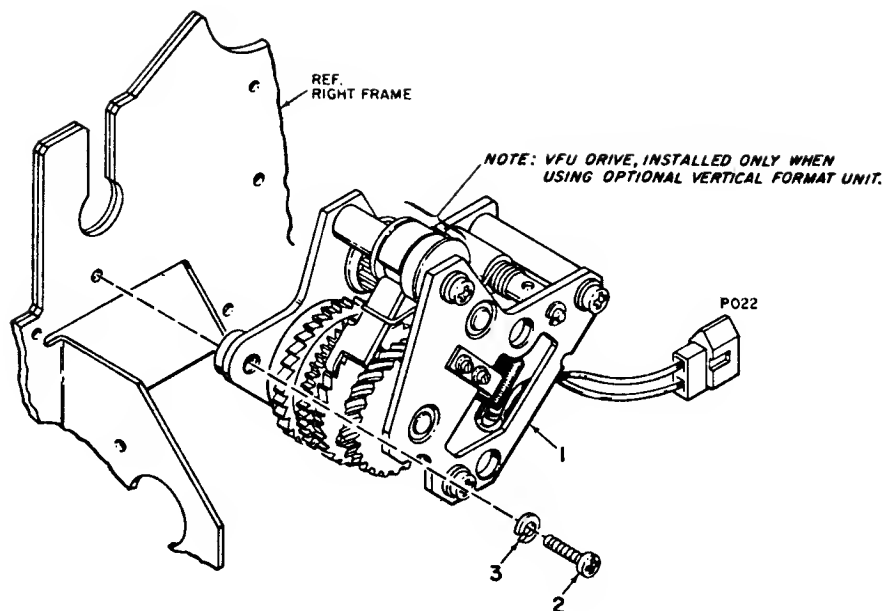

Figure 3-6A. KIT, PLATEN DRIVE ASSEMBLY
3.9 PLATEN DRIVE ASSEMBLY (Figure 3-6A)